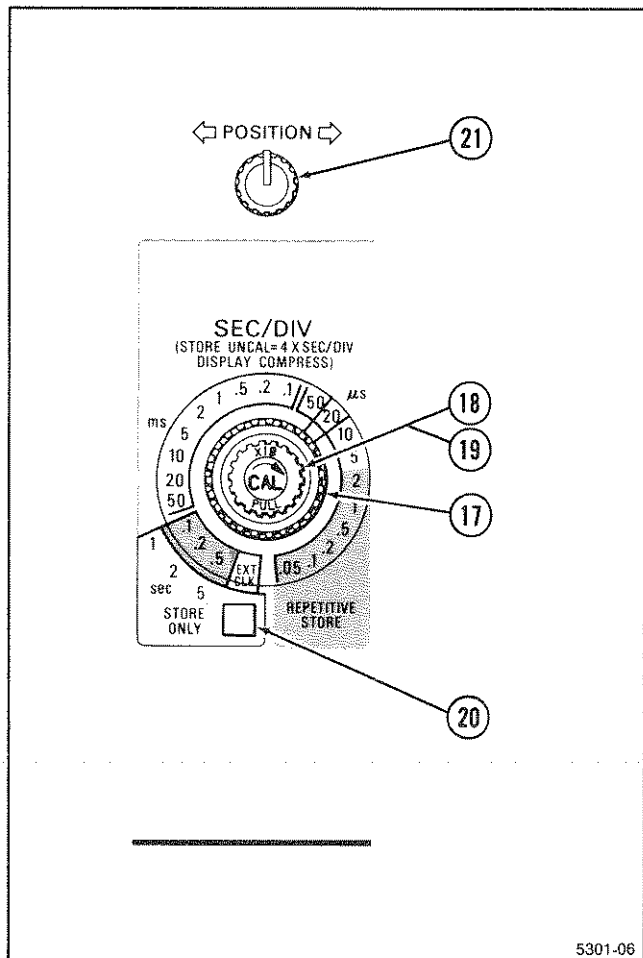

Figure 3-3. Horizontal controls.
See Figure 3-3 for the location of items 17 through 21.